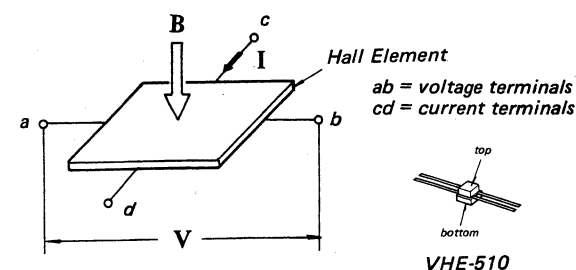

Fig. 1-1.
* The Hall Effect: When a current (I) flows through a substance, and a magnetic field (B) is applied at right angles to the direction of current flow, a potential difference (V) will be generated in a direction at right angles to both the current and magnetic field. (See Fig. 1-1.)